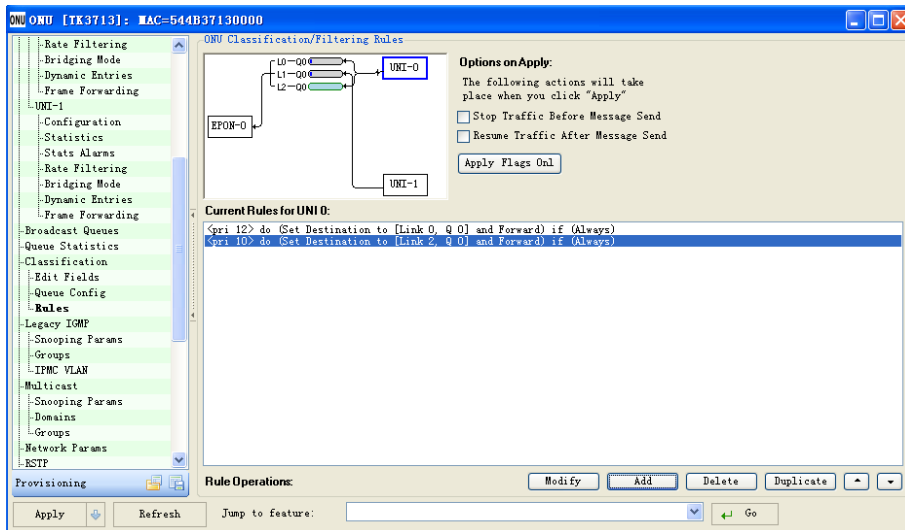

Figure 8-13 New Rule Display
- 6) Display a rule in the main window, connect the link L2 and UNI-0 in the structural chart on the top of the window shown in the Figure 8-13.